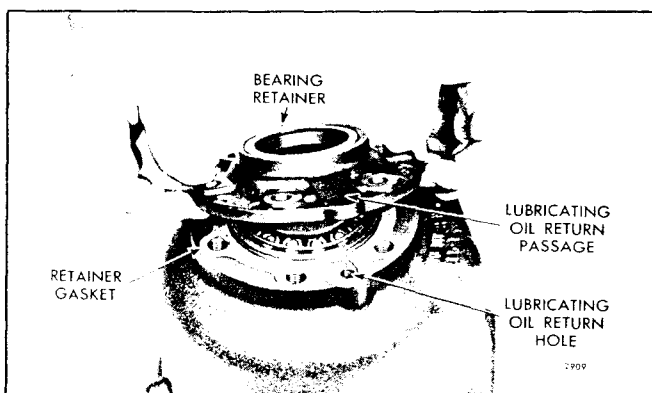

Fig. 97 - Installing Drive Shaft Bearing Retainer on Gear Housing
of the gasket over the oil hole and the bolt holes in the gasket and gear housing in alignment as shown in Fig. 97.
- b. Place the bearing retainer straight over the bearing and gasket with the oil drain notch in the retainer directly over the oil hole in the gear housing, and the bolt holes in the retainer and gear housing in alignment as shown in Fig. 97.